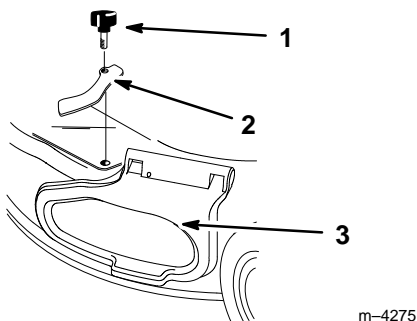

Figure 1
2. Remove the knob and side cover clamp (Fig. 1).